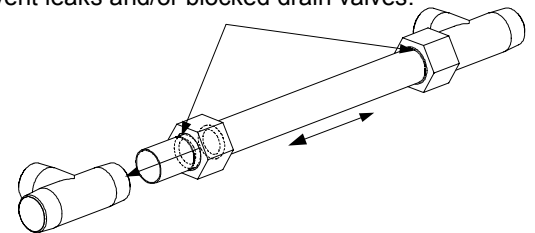

Figure 4. Slip-nut/drainpipe detail.
6. Remove slip-nut on drain-tee in filter cabinet; lubricate O-rings with vegetable oil and install on drainpipe (Fig. 4). **Use care not to damage the slip-nut O-rings when installing slip-nut on drainpipe.** After cabinets are connected (see Step #7), extend drainpipe from non-filter cabinet to drain-tee in filter cabinet. Position the drainpipe evenly between the two drain-tees using the "score" marks on the tube ends to align the drainpipe between the fittings. Connect, but do not tighten the slip-nuts.